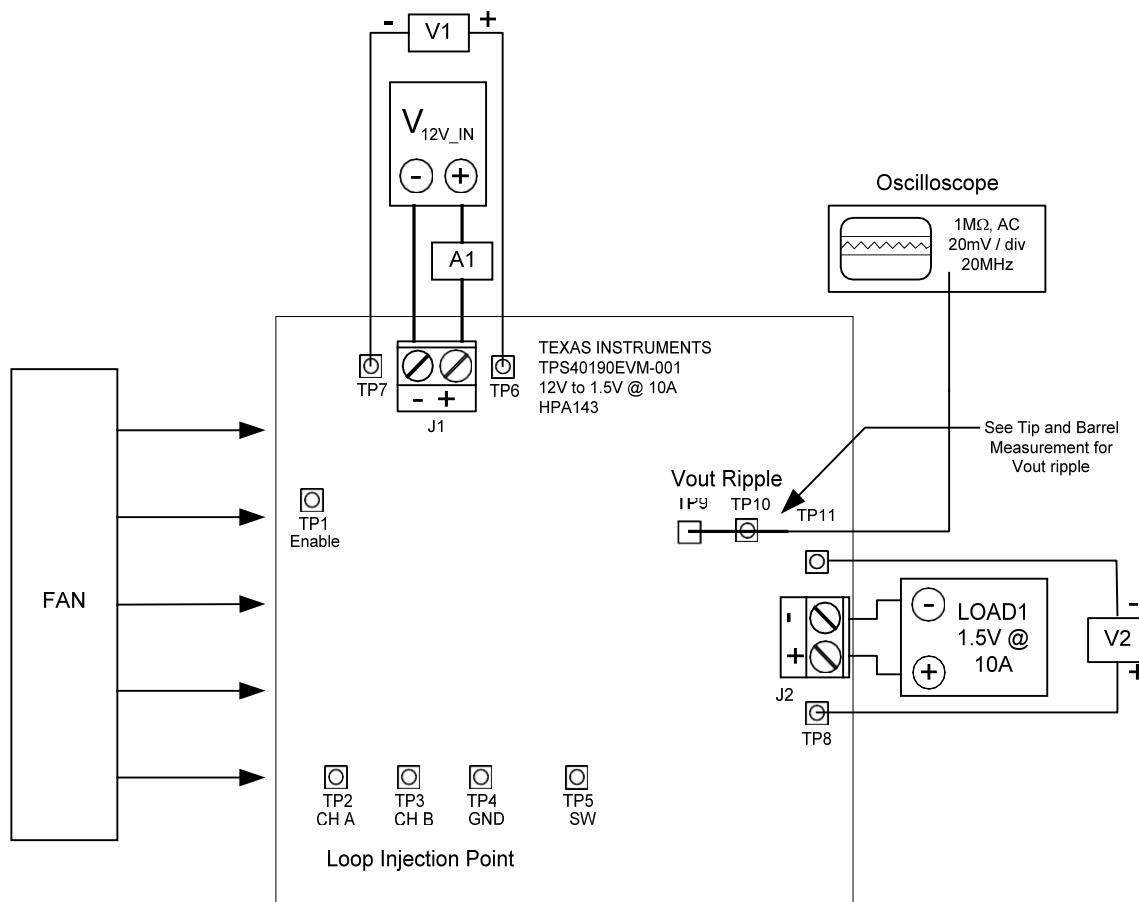

Figure 4-1. TPS40190EVM-001 Recommended Test Setup
TP 9 and TP 10 can be used to measure the output ripple voltage by placing the oscilloscope probe tip through TP 9 and holding the ground barrel to TP 10 as shown in Figure 4-1. For a hands-free approach, the loop in TP 10 can be cut and opened to cradle the probe barrel. Using a leaded ground connection may induce additional noise due to the large ground loop area.
Figure 4-1 is the basic test setup recommended to evaluate the TPS40190EVM-001. Please note that although the return for J1 and J2 are the same, the connections should remain separate as shown in Figure 4-1.
2. Prior to connecting the DC input source, V12V_IN, it is advisable to limit the source current from V12V_IN to 5.0-A maximum. Make sure V12V_IN is initially set to 0 V and connected as shown in Figure 4-1.
3. Connect the ammeter A1 (0-A to 5-A range) between V12V_IN and J1 as shown in Figure 4-1.
4. Connect voltmeter V1 to TP6 and TP7 as shown in Figure 4-1.
5. Connect LOAD1 to J2 as shown in Figure 4-1. Set LOAD1 to constant current mode to sink 0 A_{DC} before V12V_IN is applied.
6. Connect voltmeter V2 across TP8 and TP11 as shown in Figure 4-1.
7. Connect an oscilloscope probe to TP9 and TP10 as shown in Figure 4-1.
8. Place a fan as shown in Figure 4-1 and turn on, making sure air is flowing across the EVM.
1. Connect a 1-kHz to 1-MHz isolation transformer to TP2 and TP3 as shown in Figure 4-1.
2. Connect an input signal amplitude measurement probe (Channel A) to TP2 as shown in Figure 4-1.
3. Connect an output signal amplitude measurement probe (Channel B) to TP3 as shown in Figure 4-1.
4. Connect the ground lead of Channel A and Channel B to TP 4 as shown in Figure 4-1.